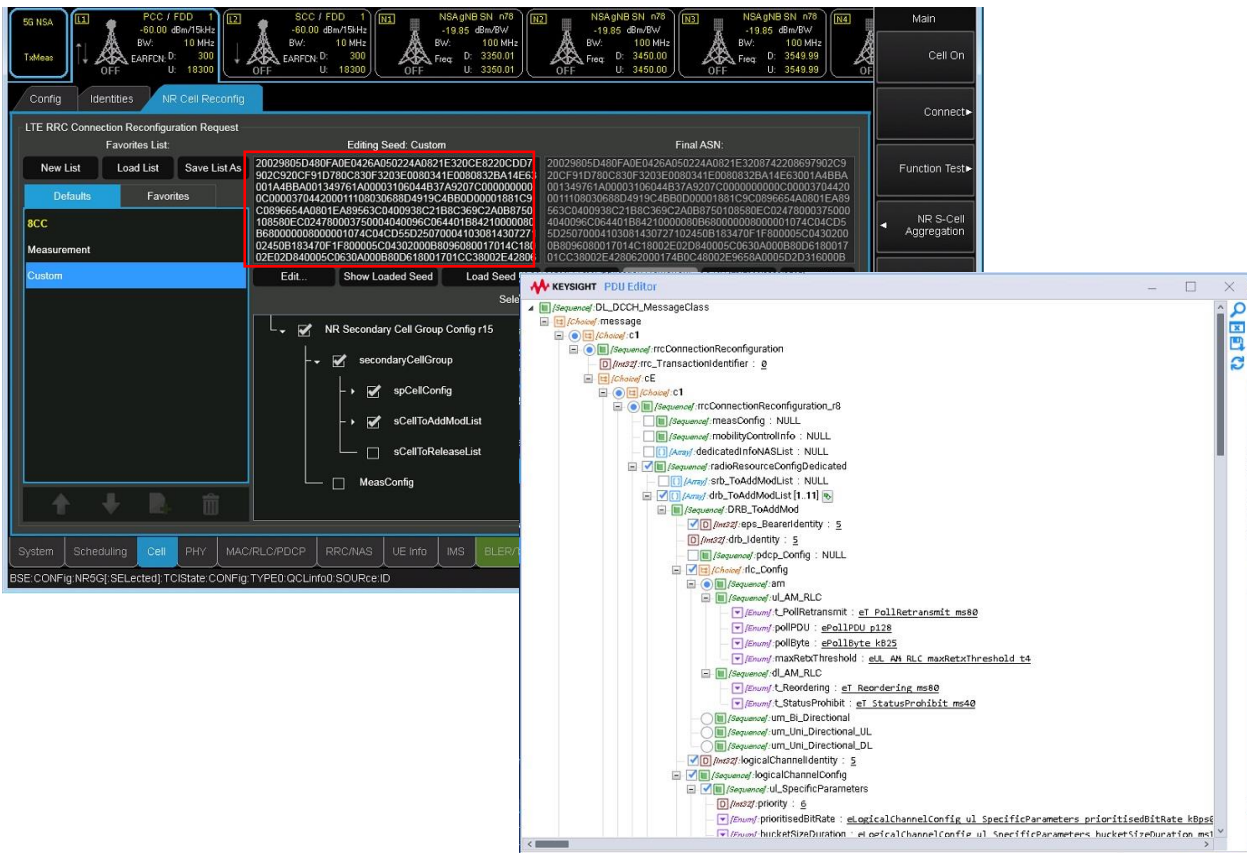

Figure 12. Modifying the 5G NR RRC reconfiguration ASN using PDU Editor
- Ability to tune RRC settings to enable interoperability at early stages (Figure 12)